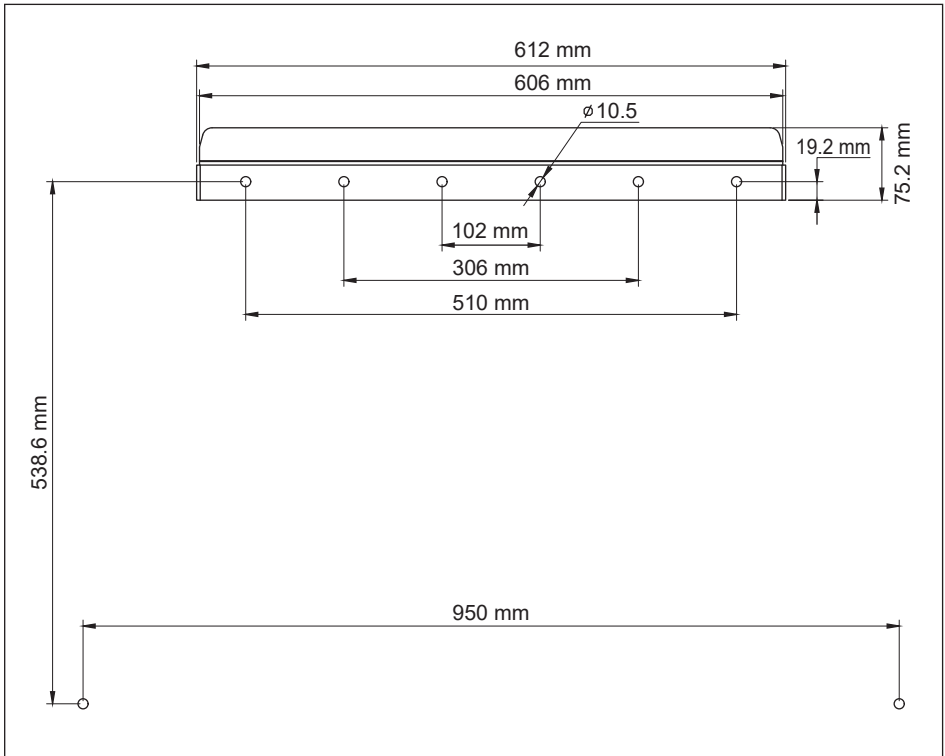

Figure 3-5: Mounting bracket dimensions
Refer to **Figures 3-5** through **Figures 3-9**.
2. Orient the wall bracket horizontally (perpendicular to the floor), with the large plate at the bottom, and mark required mounting hole locations per **Figure 3-5**.